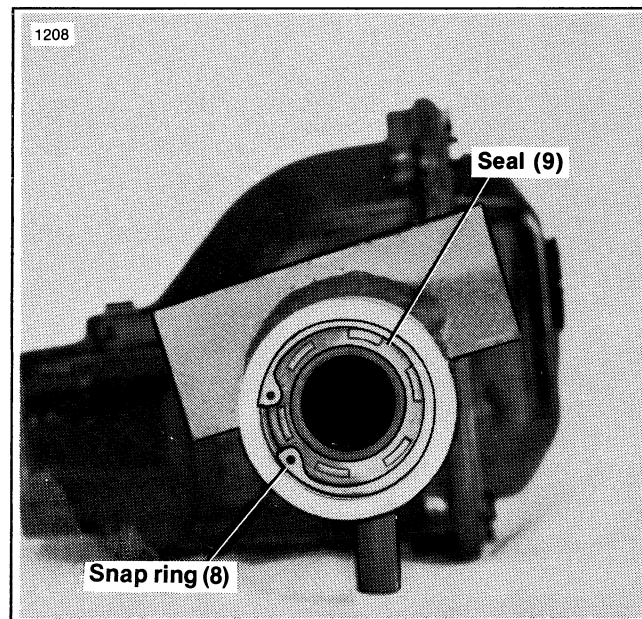

Figure 3-6. Snap Ring and Seal
11. See Figure 3-6. To remove seal (9), first remove snap ring (8) then pull or pry seal (9) from housing.
1. If axle bearing was removed or new bearing required, press axle bearing (7) onto axle shaft.
3. With seal (9) and snap ring (8) in place in axle housing (Figure 3-6), slide axle with bearing attached into housing until bearing (7) seats on snap ring (8).